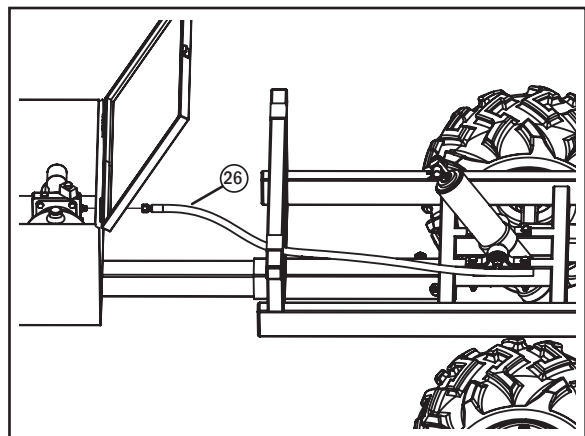

Fig. 13
Step 16: Install the Hydraulic Hose. Install the Hydraulic Hose (26) between the Hydraulic Pump (5) and Hydraulic Cylinder (10) as shown in Fig. 13. Attach the 90° fitting on the Hydraulic Hose to the input port of the Hydraulic Cylinder, then route the hose forward towards the Hydraulic Storage Box (6), passing over the two metal tie down straps on the Main Frame. Attach the straight connector on the Hydraulic Hose to the Hydraulic Pump output port. Secure the Hydraulic Hose using the two metal tie down straps mentioned earlier.